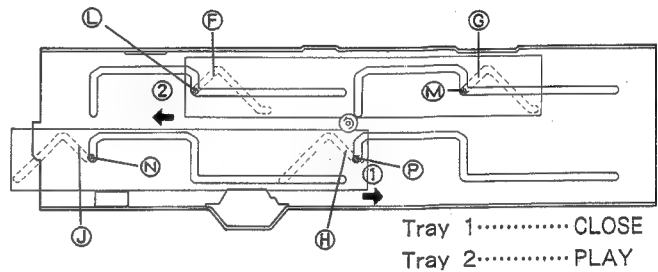
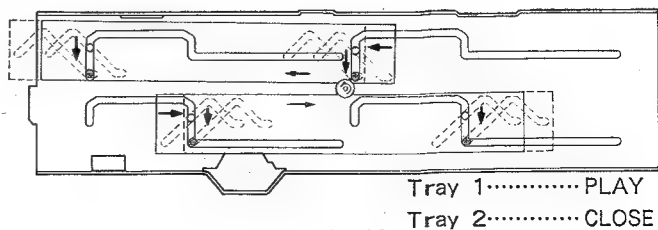

Fig. 10-7.
Fig. 10-10.
Fig. 10-7 through Fig. 10-10 show movement of tray 2 from the play position to the close position and tray 1 from the close position to the play position by the linear movement of rack U and rack L.
1. From the state shown in Fig. 10-7, racks U and L move in the directions of arrows $\textcircled{2}$ and $\textcircled{1}$ respectively.
4. When points $\textcircled{Q2}$, $\textcircled{R2}$, $\textcircled{S2}$, and $\textcircled{V2}$ are passed, the rack movement is dropping along the inclined section of the grooves as shown in Fig. 10-10.